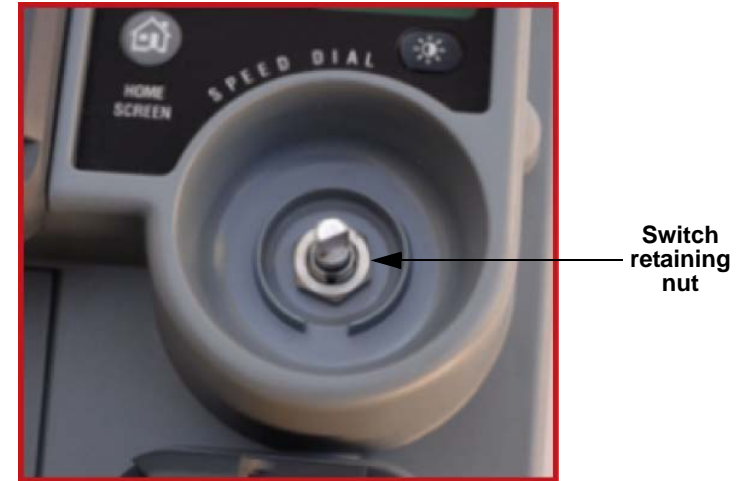

Figure 8.27—Nut and lock washer
3. Push the knob (REF 21300-007051) onto the speed dial assembly shaft from the outside of the front case (see Figure 8.27 on p. 222).